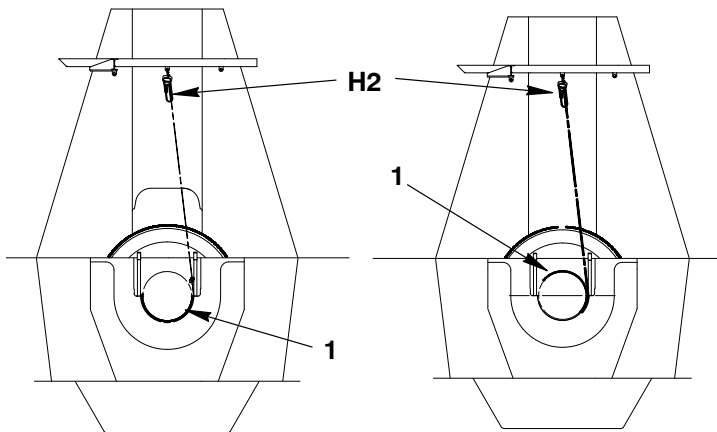
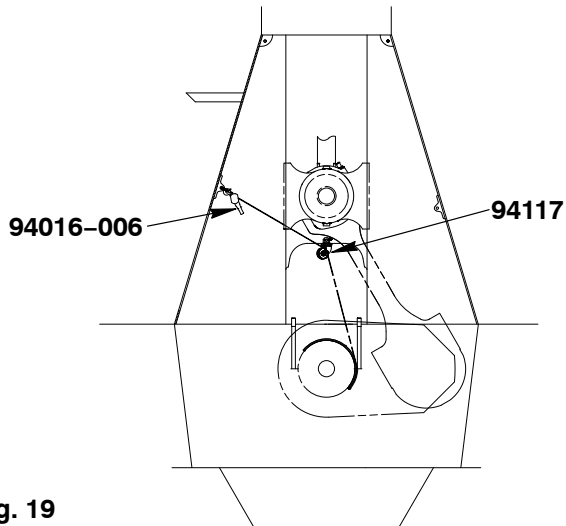

Fig. 15
Fig. 19
- 7) Operate the chain block (H2, Fig. 15) to turn the bearing shell (1) as shown in Fig. 18 and Fig. 19.
- 11) Operate the manual ratchet (H1, Fig. 19) to move the bottom bearing shell until the chain hook is adjacent to the roller support (94117).